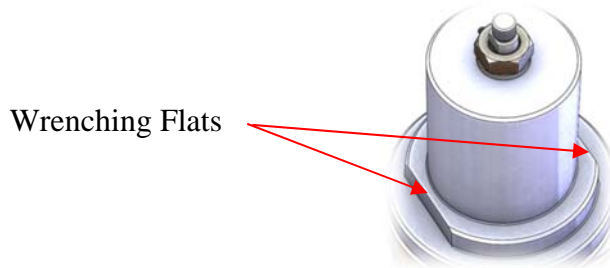

Figure 25: 9100 Series Threaded H Bonnet
- ii) Unscrew the bonnet from the body using the wrenching flats. The wrench flat width is 3-1/4". See Figure 25.